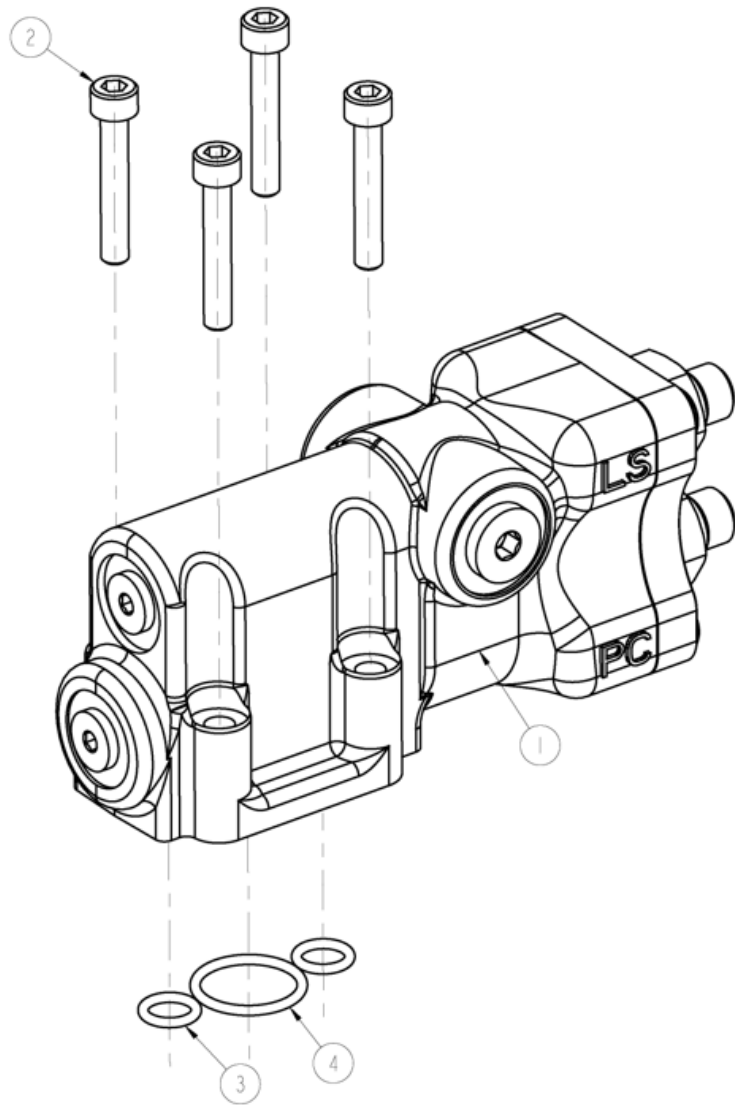
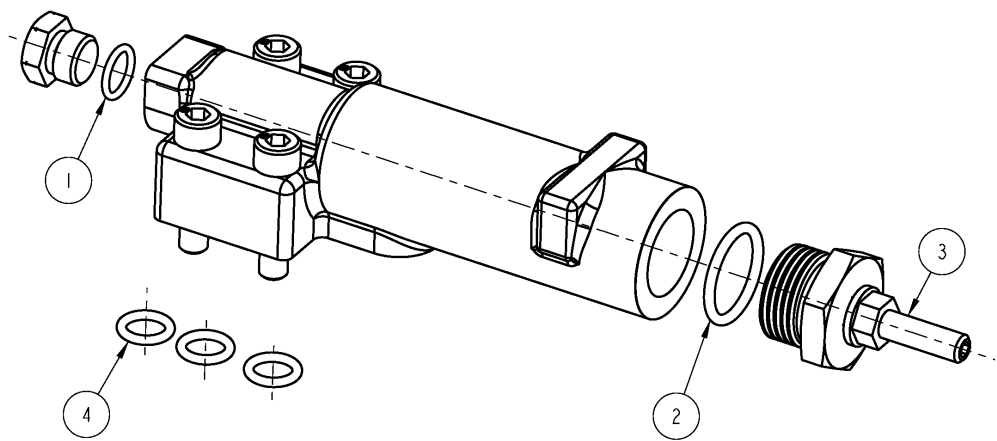

Figure 15
Figure 20
3. Remove the screw plug (Figure 15 ⑤).
4. Take out the pressure compensator valve spool (Figure 15 ⑩) and the flow compensator valve spool (Figure 15 ④).
5. Remove the four screws at the adjusting end of the compensator (Figure 15 ⑫).
6. Remove the assembly of the adjusting rod (Figure 20 ⑦), the lock nut (Figure 15 ⑧), the retaining ring (Figure 15 ⑨), the O-ring (Figure 15 ⑩) and the plate (Figure 15 ⑪).
7. Take out the pressure compensator spring (Figure 20 ⑥) the flow compensator spring (Figure 15 ③) and the spring seat (Figure 15 ②).
8. Remove the side screw plug (Figure 20 ⑭) and the damping plug (Figure 20 ⑬⑭).
1. Install the pressure compensator valve spool (Figure 15 ⑩) and the flow compensator valve spool (Figure 15 ④). The rounded ends should face inward. The pressure compensator valve spool has fewer ring grooves and is shorter, while the flow compensator valve spool has more ring grooves and is longer.
2. Install the screw plug (Figure 15 ⑤) and tighten it with a torque of 5.7 - 6.9 Nm.
3. Install the pressure compensator spring (Figure 15 ⑥), the flow compensator spring (Figure 15 ③) and the spring seat (Figure 15 ②).
4. Install the assembly of the adjusting rod (Figure 15 ⑦), the lock nut (Figure 15 ⑧), the retaining ring (Figure 15 ⑨), the O-ring (Figure 15 ⑩) and the plate (Figure 15 ⑪).
5. Install the four screws at the adjusting end (Figure 15 ⑫) and tighten them with a torque of 14.4 - 17.6 Nm.
6. Install the side screw plug (Figure 15 ⑭) and tighten it with a torque of 13.5 - 16.3 Nm. Install the damping plug (Figure 15 ⑬⑭) and tighten it with a torque of 4 - 6 Nm.
1. Remove the 4 screws that fix the compensator housing to the end cap (Figure 20, item ②).
2. Remove the compensator and take out the three O-rings (Figure 20, item ③).
9. Install three O - rings (Figure 20, item ③).
10. Use four screws (Figure 20, item ②) to fasten the compensator housing onto the end cap and tighten them with a torque of 31 - 37 Nm. When tightening, do it in a crisscross pattern and re-tighten the first screw.